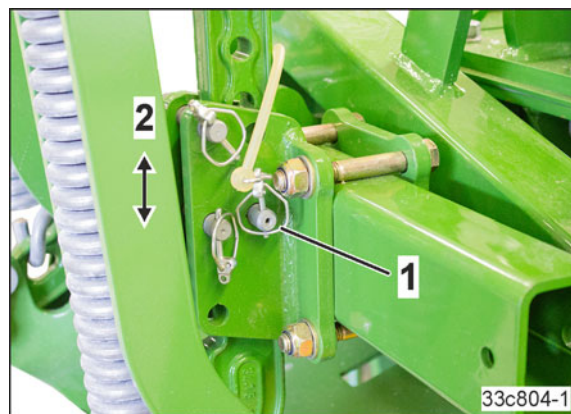

Fig. 148
Adjust the wheel mark eradicator vertically to the desired working depth (Fig. 148/2), and secure the positioning bolt (Fig. 148/1) with a linch pin.
To prevent damage, the implement must not be put down on the wheel mark eradicators. Using the recessed grip, secure the wheel mark eradicators in the topmost position (see Fig. 148).
1. Remove the linch pin (Fig. 148/1)
4. Using the recessed grip, secure the wheel mark eradicators in the topmost position (see Fig. 148/2)
5. Secure the locking pin with a linch pin (Fig. 148/1)